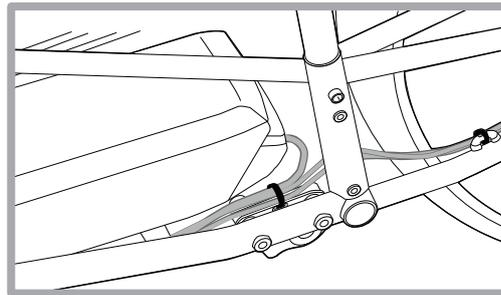

Figure 4
4. Bundle wires and cables on the non-drive side of bike (battery cable, speed sensor, rear brake) and secure them to the top of frame mounting plate using zip-tie through supplied hole in mounting plate (Figure 4).